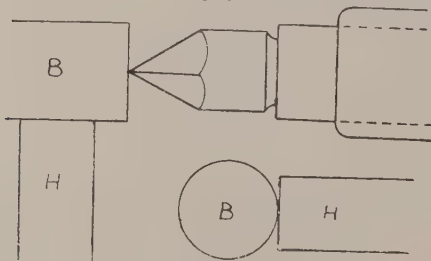

FIG. 7.
In rapidly and accurately centering a number of pieces of work the "square-centre" is of much service. This is an ordinary lathe centre with four flats filed on the point, so as to form cutting edges (Fig. 6). It is used as follows. The work after being roughly centred with a punch, the marking out process not being necessary, is fitted with a carrier and placed between centres, the ordinary back-centre of the lathe being replaced by the square centre. A square ended bar (H) the shank end of a tool will do if fairly smooth, is fixed in the slide rest, or held very firmly against the hand rest, and is then gradually brought to bear against the work, while the latter (B) is running round as in Fig. 7. At the same time the square centre is fed up against the end of the work,